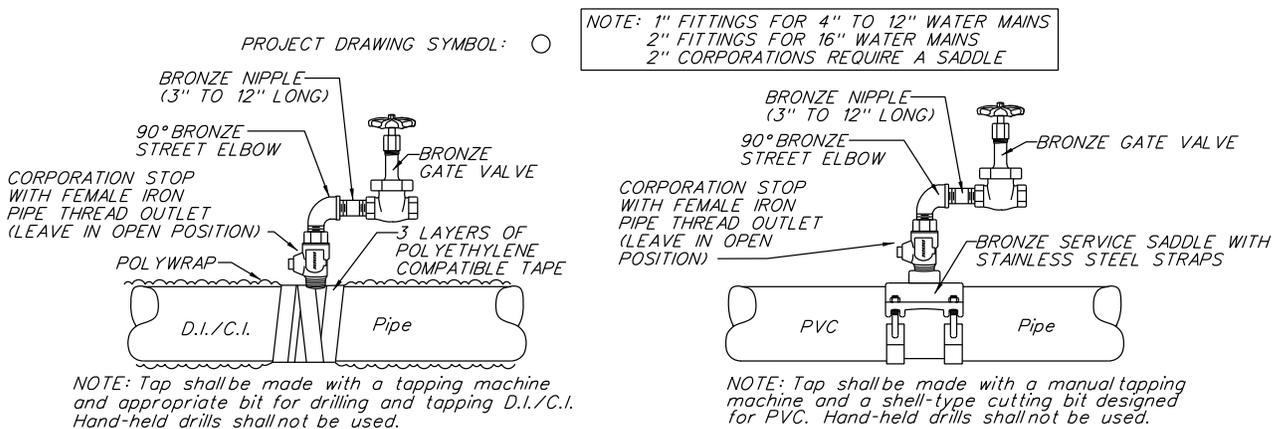
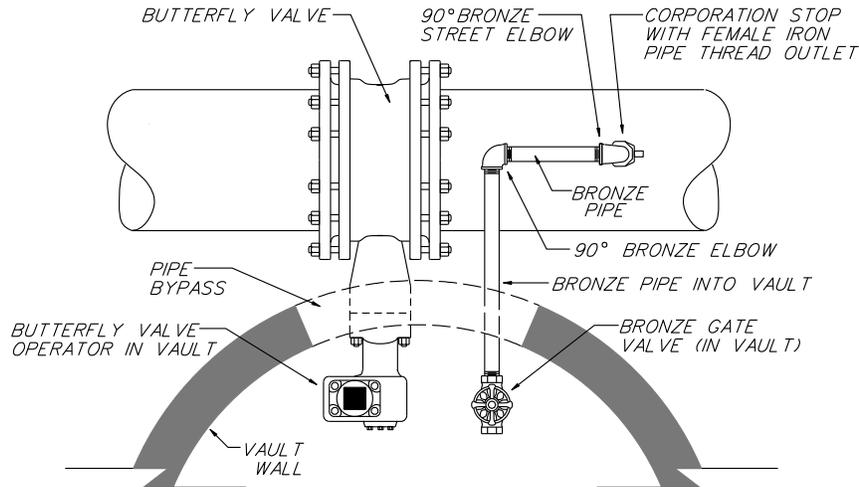

Fig 1
Fig 3
Taps on PVC mains shall utilize a service saddle per M.U.D. 119, located in the Standard Specifications for Water Main Construction manual, as shown in Fig 1. Taps on HDPE mains shall utilize a saddle per construction standard 6.0.6 or contact Engineering for the proper saddle. See Fig 2.
* Air taps shall be installed on all high points of water mains, as illustrated in Fig. 1 through Fig. 3. A high point includes any point on the main which becomes the point of highest elevation when a valve is closed.
When installing an air tap adjacent to a butterfly valve, extend the piping into the vault over the valve operator. (See Fig 3). Size the pipe pass so the vault will not rest on the pipe.